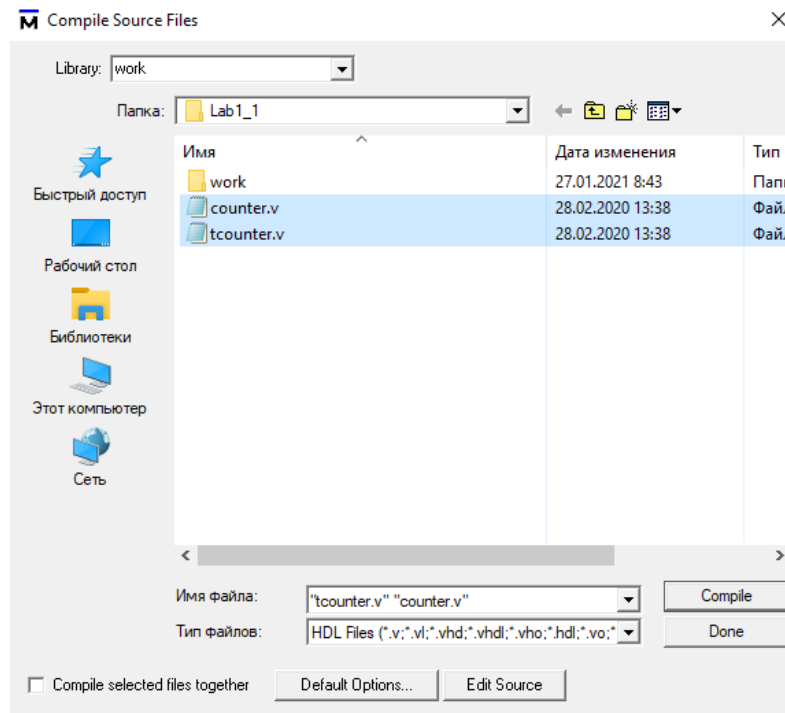

Figure 6
- a. Select **Compile > Compile**. This opens the Compile Source Files dialog box (Figure 6).